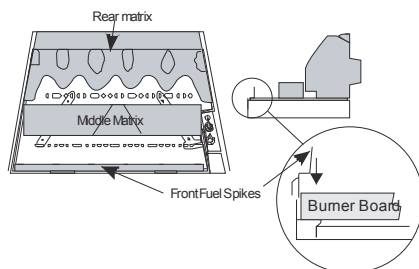

Figure 36
1. Having unpacked all the fuel-bed components proceed with placing the **rear matrix** pieces centrally and to the rear of the burner tray ensuring that it touches the ceramic fire-back (see **Figure 36**).
2. Place the **middle matrix** pieces onto the burner board so that they key into the triangular depression on the board (see **Figure 36**).
3. Insert the front fuel spike between the board and the front of the metal tray (see **Figure 36**).